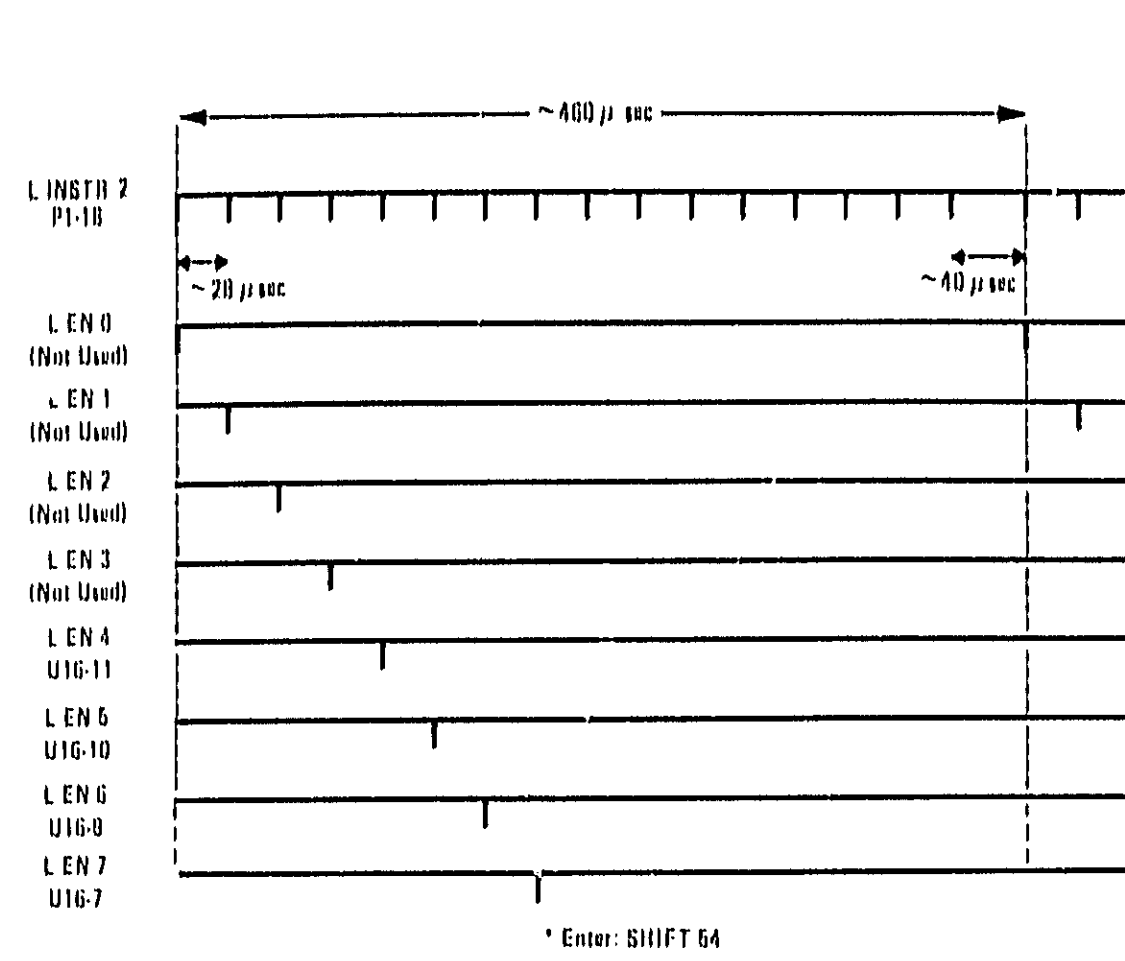

Figure 8-53. A7 Address Decoder Timing Diagrams
2. If L INST2 is functional, check each of the L ENn lines (U16) for the pulses shown in Figure 8-53. If these are incorrect, but the address lines show activity, replace U16. If the address lines seem locked high or low, troubleshoot the address buffer on the A3 assembly.